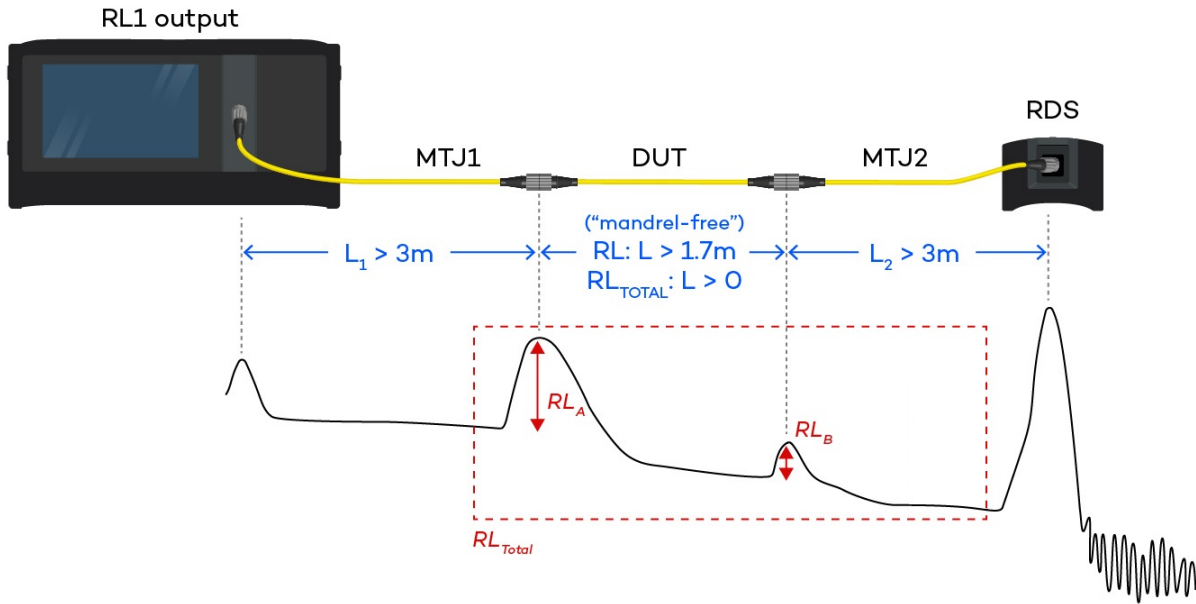

Figure 12: Sample trace showing RL and RL_{TOTAL}
6	<p>Test parameter</p> <ul style="list-style-type: none"> • Tap on an existing parameter: open Parameter Modification pop-out <ul style="list-style-type: none"> ◦ Tap on a parameter to replace the existing parameter ◦ Tap on “X” to remove that parameter • Tap on “+”: open Parameter Addition pop-out <ul style="list-style-type: none"> ◦ Tap on a parameter to add that parameter ◦ Tap on “X” to close the pop-out • Test parameters (see Figure 12 for more information) <ul style="list-style-type: none"> ◦ IL_#: insertion loss (IL) in dB on detector # ◦ RL: connector return loss (RL) in dB at position A ◦ RL_{Total}: total return loss (ORL) in dB from the connector at position A to the end of the fiber excluding the final glass-to-air reflection ◦ RL_{Dual}: connector return loss (RL) in dB at positions A and B